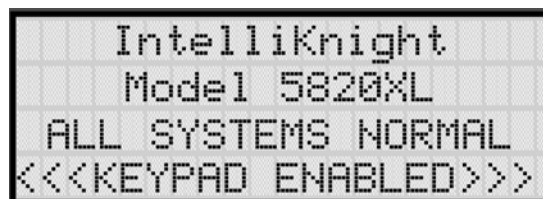

Figure 6-7 Keypad Enabled Screen
2. The display prompts you to press the  or  key to bring up the Installer Main Menu. (See Figure 6-7).